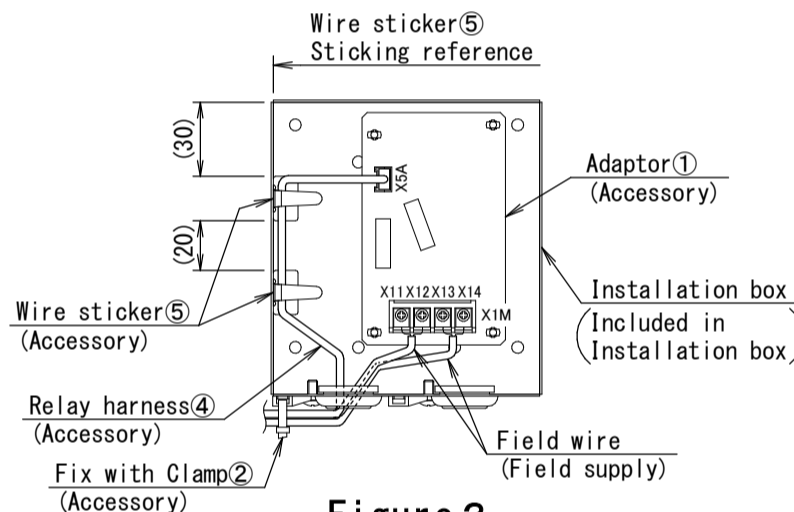

Figure 3
(4) Make a cross cut in the Wiring outlet with cutter. Fix Relay harness④ with Wire stickers⑤ and pass it through the hole along with Field wire. Then, fix them with the Clamp②. (Figure 3)